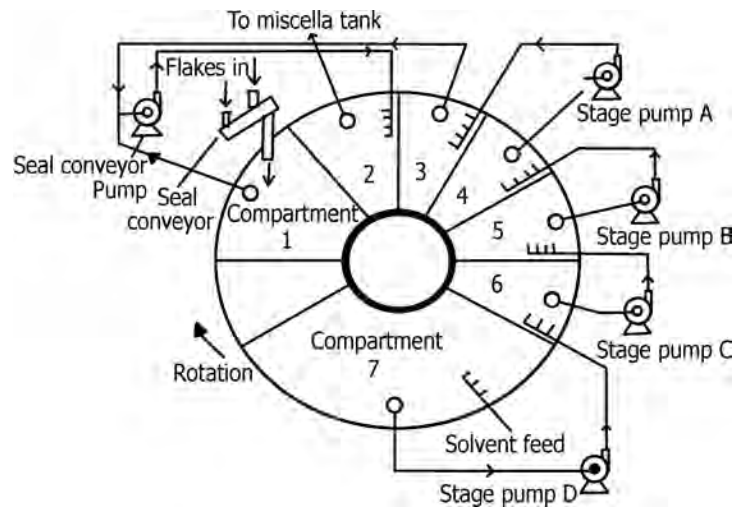

FIGURE 17.64 Rotocell extractor.
- Figure 17.64 illustrates the working of a rotocel extractor.